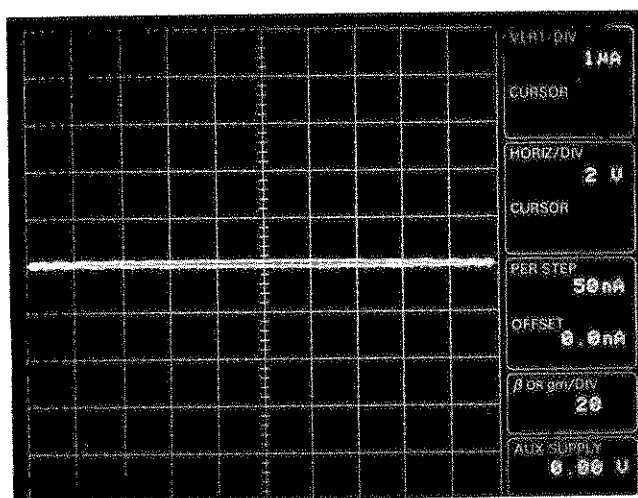

Figure 3-7. Adjustment of LOOPING COMPENSATION control.
31. Turn the COLLECTOR SUPPLY VARIABLE control to 100%, adjust the trace intensity for a visible display, and adjust the LOOPING COMPENSATION control for minimum trace width (see Figure 3-7). Use the TRACE ROTATION control to align the trace with the horizontal graticule line.